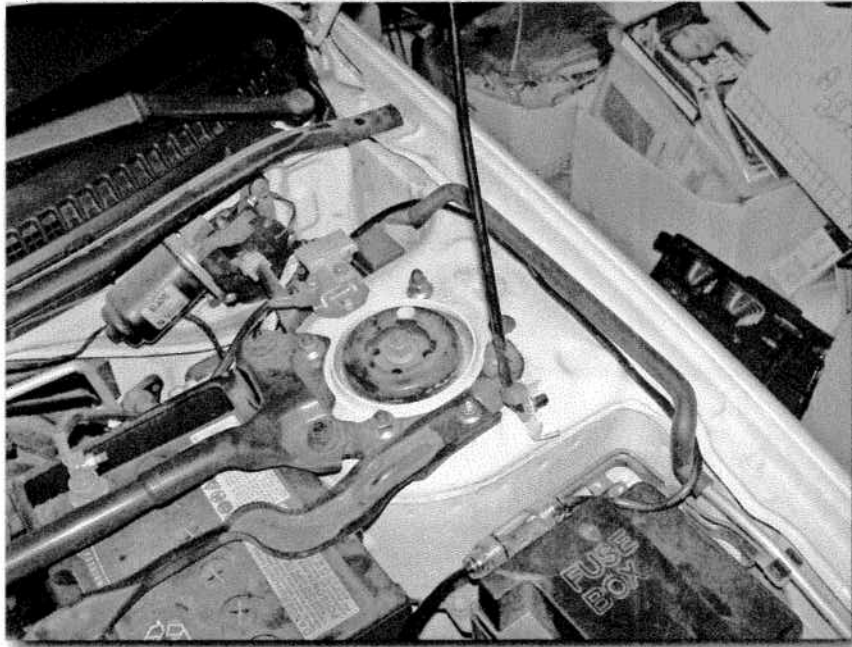
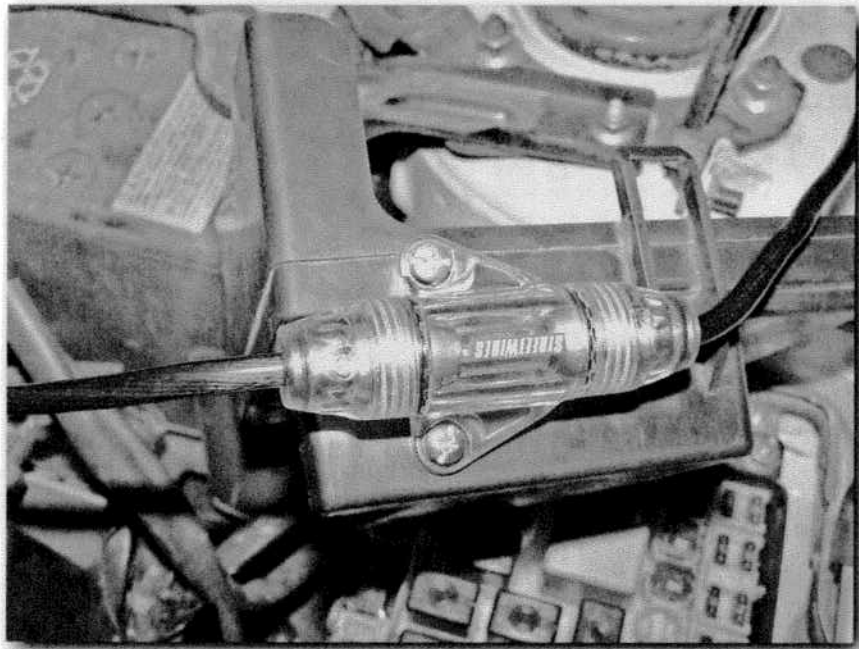

FIGURE 3-20: The power cable runs along the side of the vehicle (right).
FIGURE 3-21: The mounted fuse on the side of the fuse box.
2. In Figure 3-20, you can see where we ran the power cable along the side of the engine compartment and over to the battery. Then, as shown in Figure 3-21, we mounted the fuse to the fuse box by screwing it to the plastic case. Make sure you use the rubber washers under the screws so you can keep water out! As stated earlier, a thin bead of silicone rubber can help ensure a good water-tight seal.